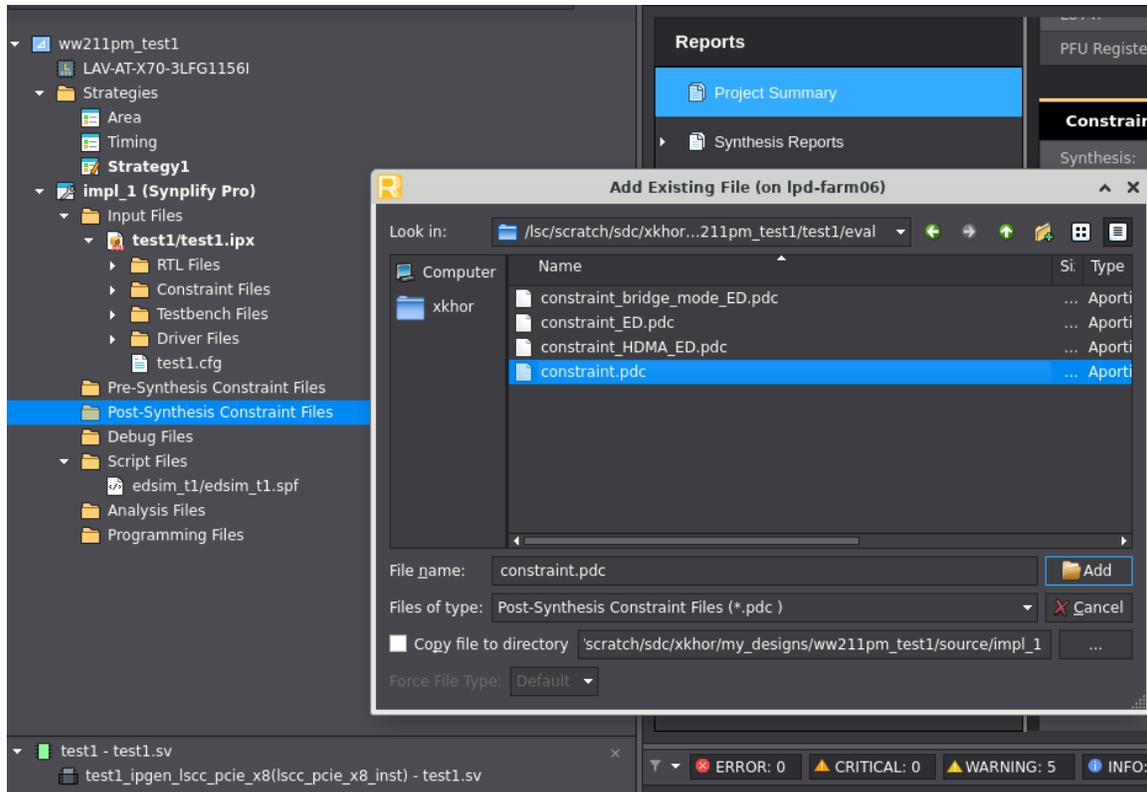

Figure 7.10. Select constraint.pdc from the Eval Folder
- Refer to the settings in Figure 7.10. Browse to `<project_folder>/<project_name>/<ip_name>/eval/` and select **constraint.pdc**.